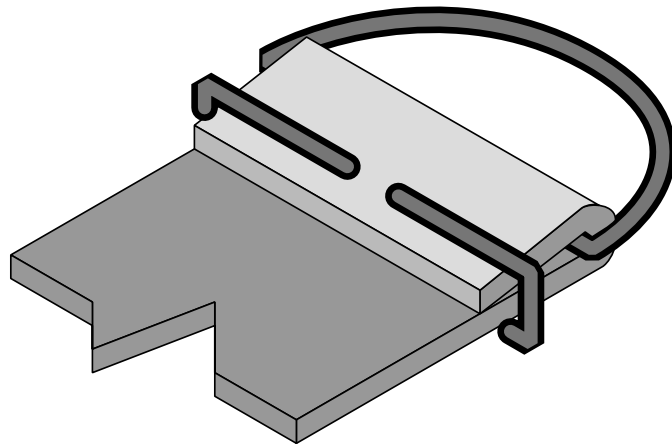

Figure 11: D rings for straps made from re-bar.
- 8) Next you need to make up the six straps to hold the saddles onto the donkeys. The D rings at the end of the straps can be made from 6 mm diameter concrete reinforcing bar as shown in Figure 11. A separate piece of the re-bar is clenched over the strapping using hammer blows to fix the D rings to the ends of the straps as shown.